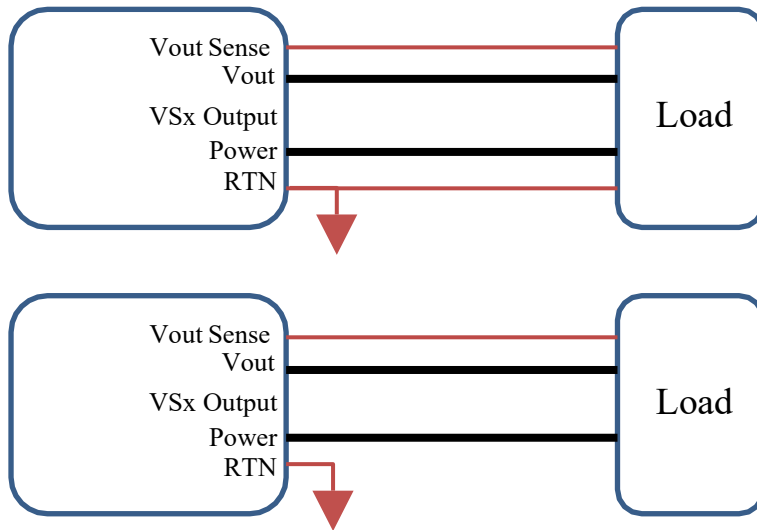

Figure 1: M4168 Sense line connection
*Sense Lines* are provided for VS1, VS2 and VS3 output to compensate line voltage drop. *Sense Lines* proper connection is shown in Figure 1. Each VSx output has its own *Sense Lines*, additional common *Sense RTN Line* is provided for all VSx Outputs (Vita 62 Standard). A 12V VS1 & VS2 configuration is available. Contact Factory for Sense configuration different than the Vita62 standard